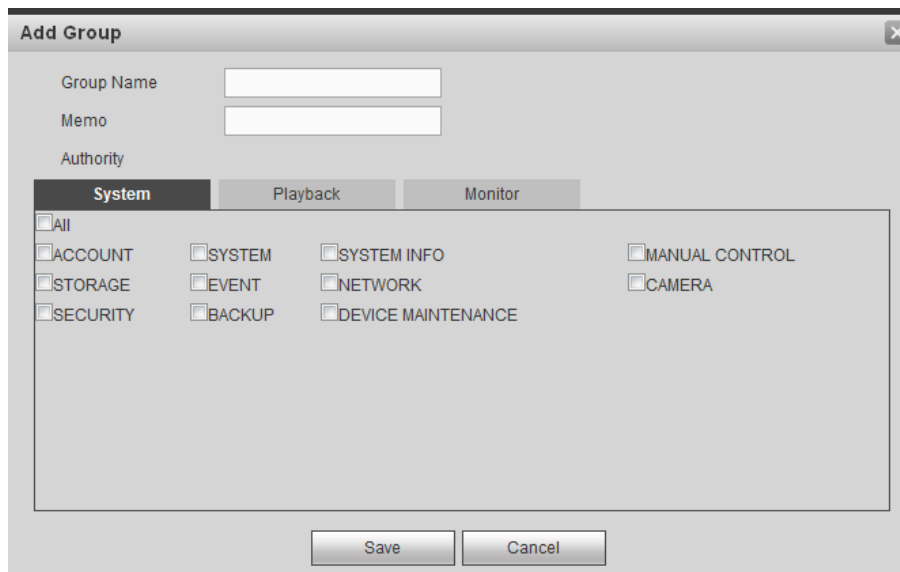

Figure 5-130
Step 1 Click Add group button. Enter add group interface. See Figure 5-130.